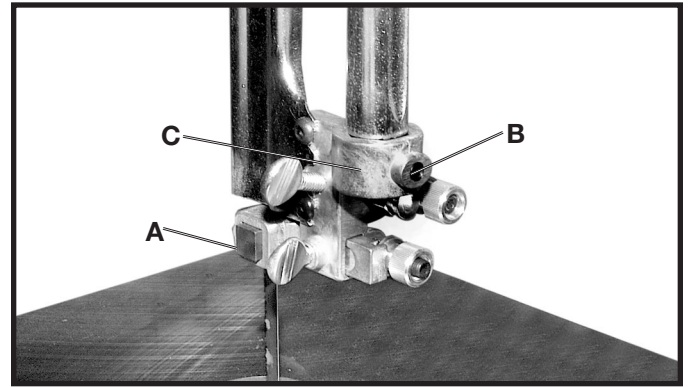

Fig. 54
2. Check the upper blade guide assembly. The blade guides (A) Fig. 54 should be parallel to the blade. To adjust, loosen the screw (B) and rotate the complete guide assembly (C). When the blade guides are parallel with the blade, tighten the screw (B).